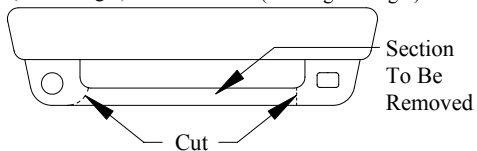

FIGURE 1
See Note Below and Figure 1
①	Qty. (2)	Hex Bolt, 1/2"-13 x 1-3/4"	③	Qty. (2)	Handle Nut, 1/2"
②	Qty. (2)	Conical Washer, 1/2"	④	Qty. (4)	Hex Bolt, M10 x 1.75 x 45
****NOTE: All Mazda vehicles and '93 through -97 Ford Rangers with fog light option require extensive fascia cut. See Figure 1. CONSULT VEHICLE OWNER.**